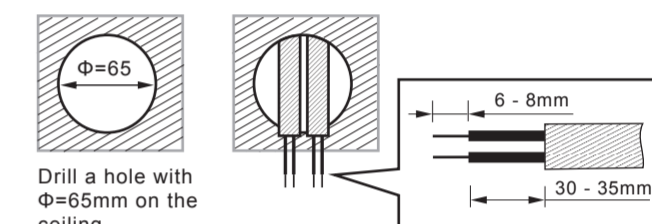

FIG.10
- 4.4.2.1 To install sensor, please drill a hole with diameter of 65mm on ceiling board and keep the power cable out-side. Please strip off 6 - 8mm of cable sheathing for wiring (See FIG.10).